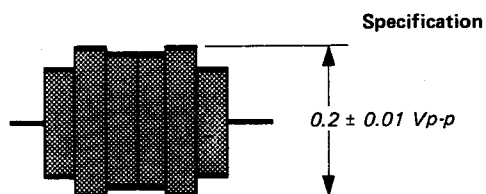

Fig. 5-87.
4. Turn on the CHROMA PRESET control so that the output waveform is 0.2 Vp-p. (See Fig. 5-87.)